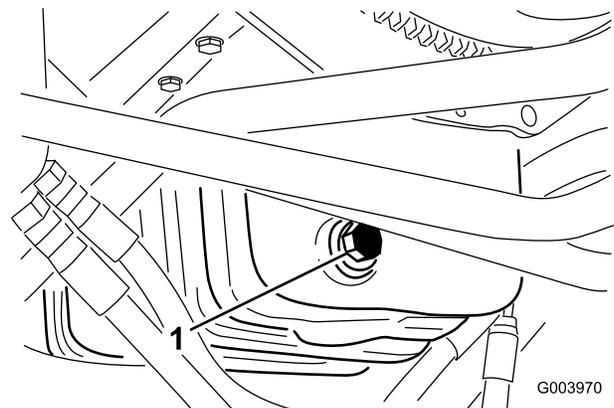

Figure 53
1. Remove the drain plug (Figure 53) and let the oil flow into a drain pan.